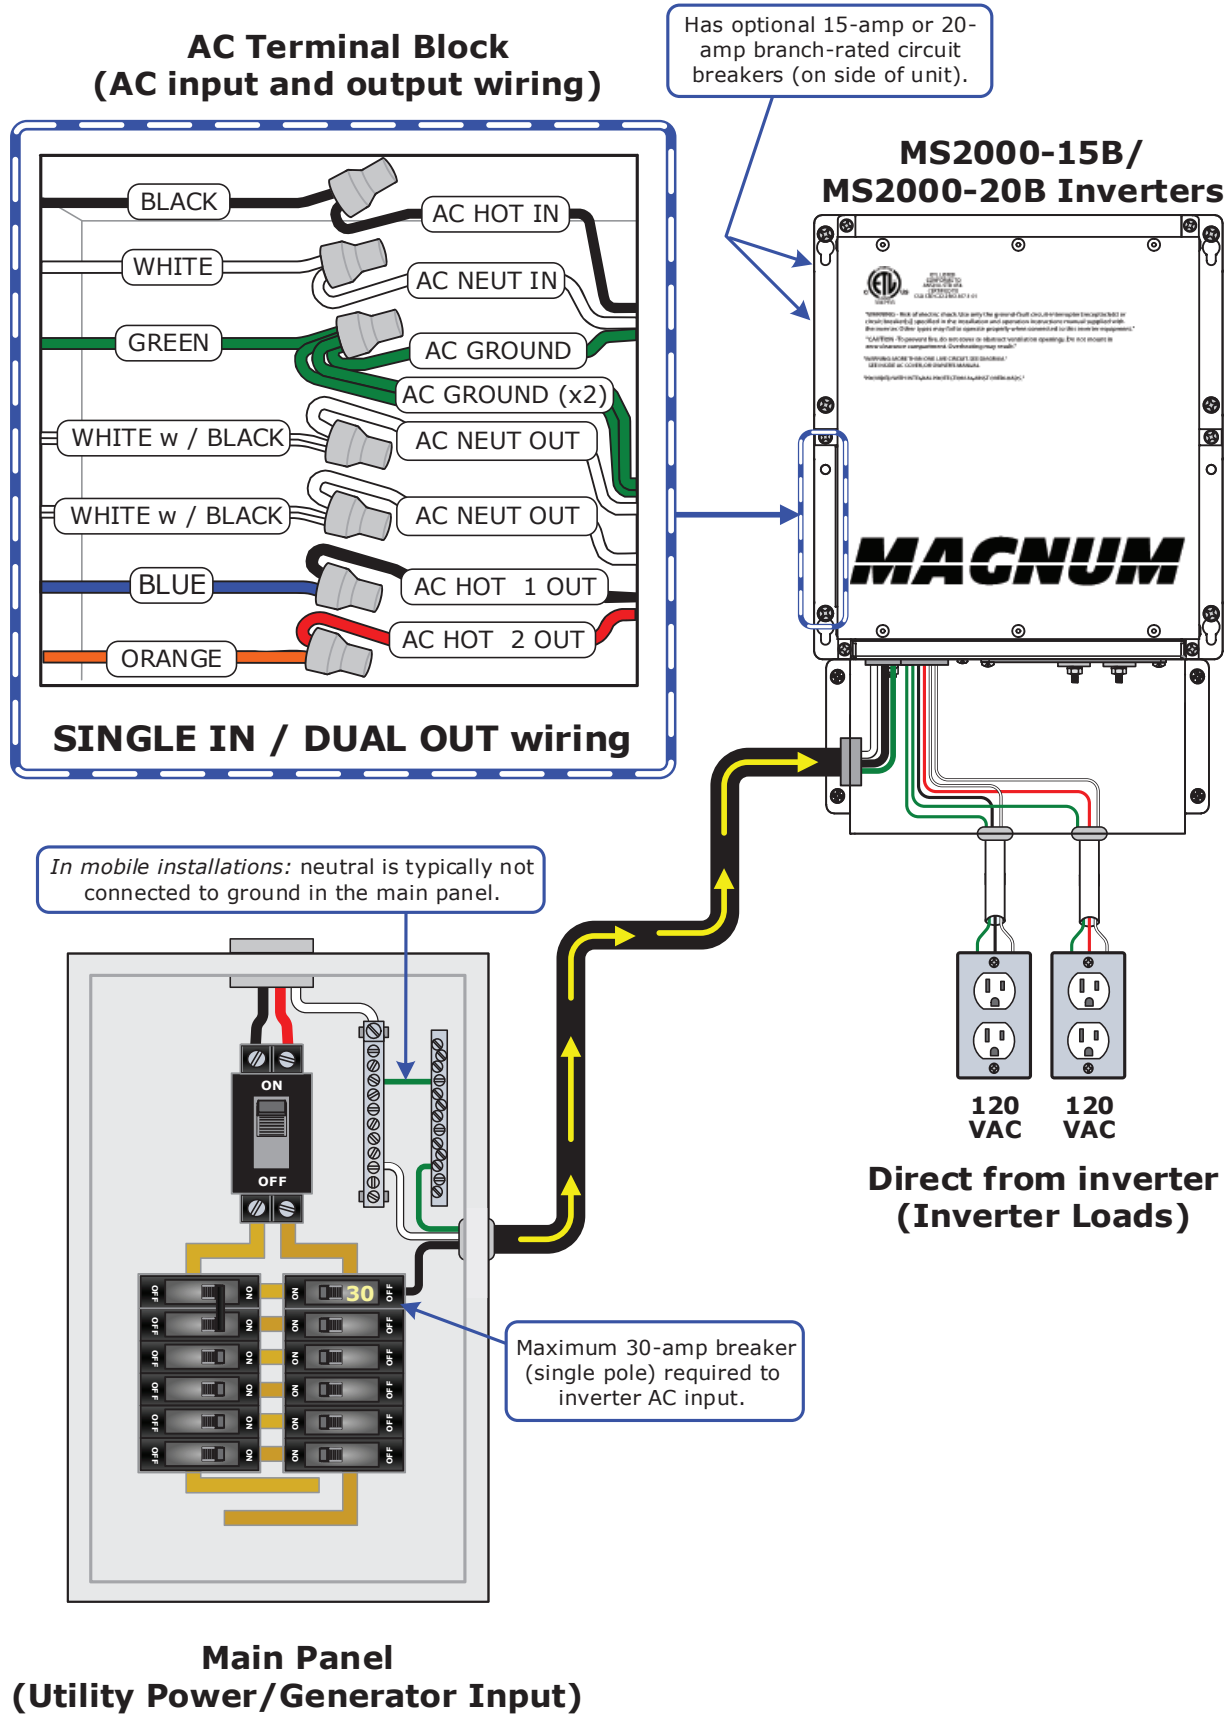

Figure 2-17, AC Wiring for MS2000-15B/-20B Models
7. Connect the inverter's AC NEUT OUT (WHITE w/BLACK) wire to the sub-panel's neutral busbar (or to the neutral connections on the outlets, if using the output breaker versions—see Figure 2-17) using field wiring leads.